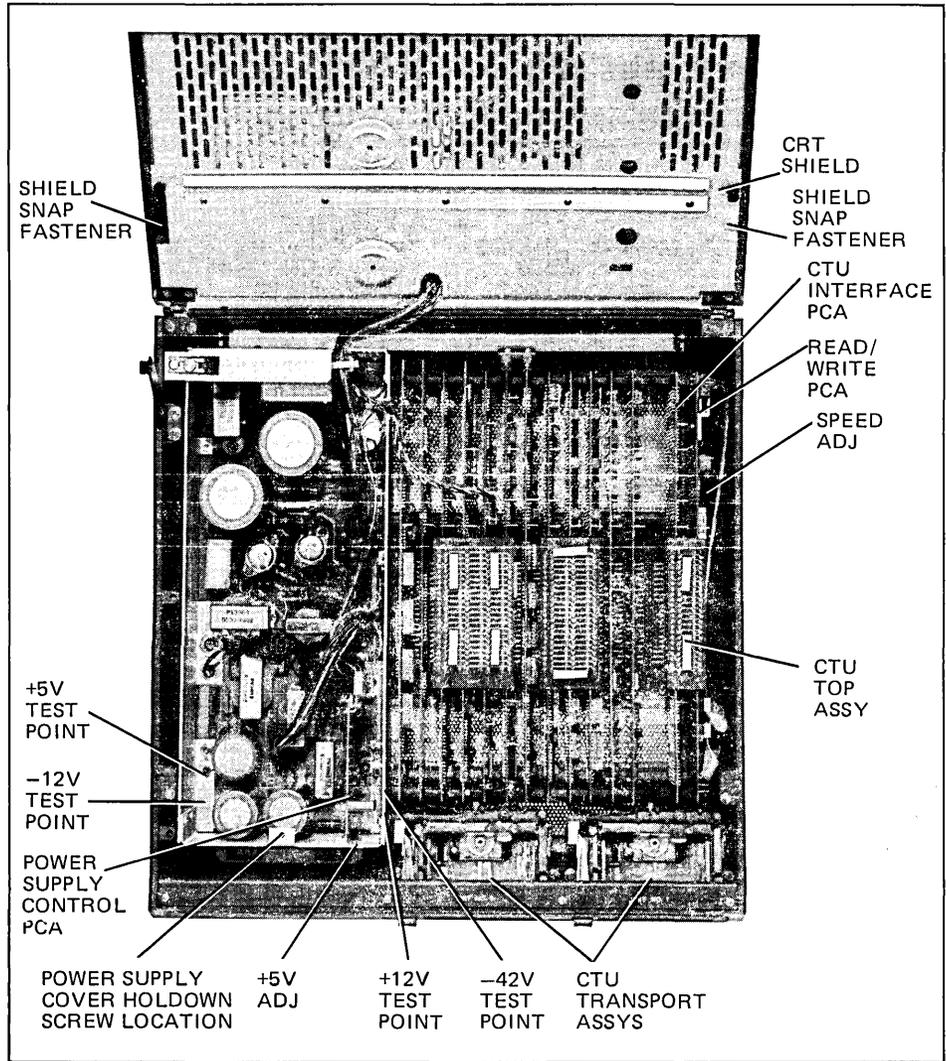

Figure 5-1. Mainframe Bottom Test Point and Adjustment Locations
PROCEDURE .....	<ol style="list-style-type: none"><li>1. Open the terminal, and remove power supply cover by loosening the cover holddown screw (figure 5-1).</li><li>2. Turn on ac power to terminal, and ensure that neither cartridge tape transport motor is running (if installed).</li><li>3. Check the voltages at the following points with the multimeter. (See figure 5-1.)</li></ol>
- a. Pull out on the two nylon snap fasteners on each side of the shield (figure 5-1).